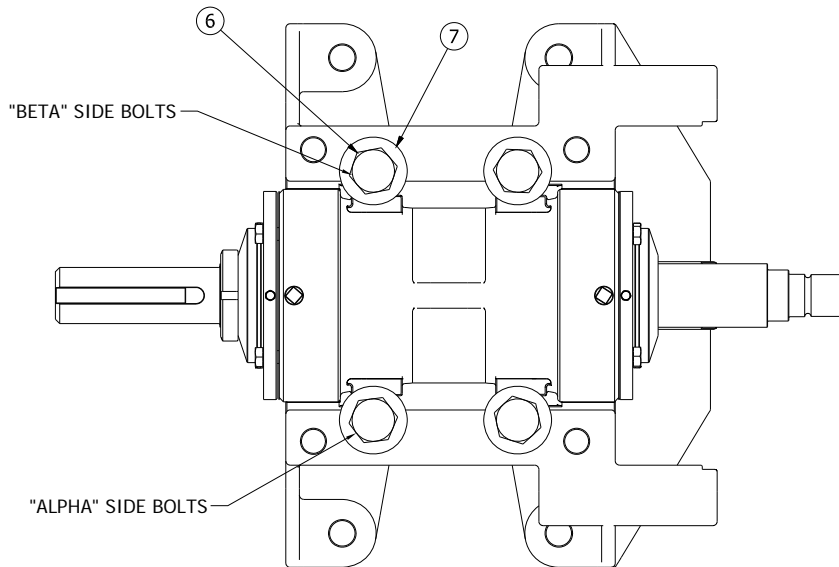

Fig 5.
24. Insert Heavy Hex Bolt(3) into Base(1) from exterior screw on one nut and tighten. Next screw on one Nut(4) the two Washers(5) and the last Nut(4) leaving them loose and as far apart as possible.
25. Grease the machined surfaces on Base(1) where Bearing Assembly(2) will sit.
26. Lower Bearing Assembly(2) onto Base(1) lining up machine surfaces of the Bearing Housing(2.3) with the holes in the Base(1). Be sure that the Bearing Housing(2.3) adjustment lug fits in between the two washer(5) on the Heavy Hex Bolt(3) adjuster.
27. Insert the clamp bolt Heavy Hex Bolt(6) and Plain Washer(7) into Base(1) and install Plain Washer(7) and Nut(4) from top. Fully tighten "ALPHA" side bolts leaving "BETA" side bolts finger tight. (See Fig 5.)
1. Loosen Clamp Bolt(6) on Beta side only.(See Fig. 5)
2. Turn the shaft clockwise by hand and push the Bearing Assembly(2) forward toward the Frame Plate(31) by tightening the rear nut on the Adjustment Bolt(3) until the impeller starts rubbing on the Liner (30)
3. Loosen the rear hex nut on the Adjustment Bolt(3) 1/3 turn then move bearing assembly back with the front nut on the Adjustment Bolt(3) until the housing is secure against the rear nut.
4. Tighten Clamp Bolt(6) on the Beta side (See Fig. 5) bolts on Alpha side were secured previously.
5. Secure both Adjustment Bolt(3) Hex Nuts against the Adjustment Lug on the Bearing Assembly(2)
6. Turn the shaft and if impeller rubs against Liner(30) repeat Steps 1-6 until the impeller no longer rubs.